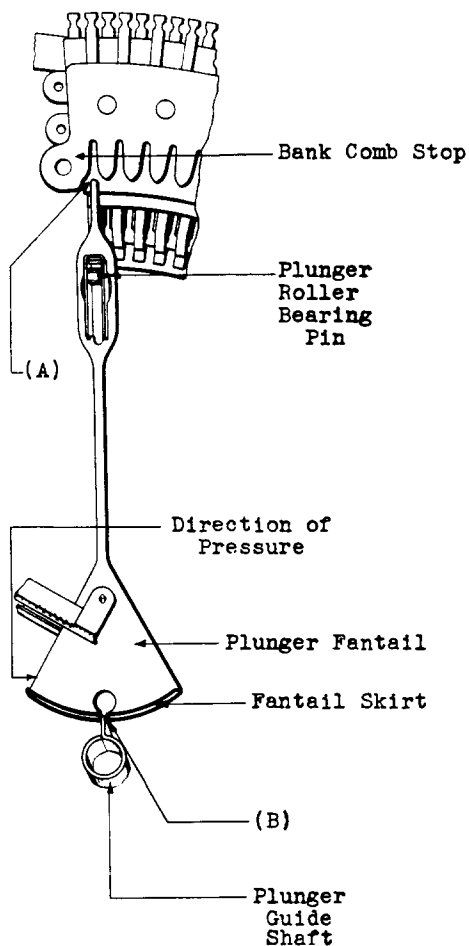

Fig. 5 — Clearance Between Plunger Tip and Bank Comb Stop
2.11 Clearance Between Plunger Tip and Bank Comb Stop: Fig. 5(A)—There shall be some clearance between the plunger tip and the bank comb stop (end of bank) when the plunger fantail slot is engaged with the plunger guide shaft op-
2.12 Re-engagement of Plunger With Plunger Guide Shaft: Fig. 5(B) and 6(A) — With the plunger guide shaft opposite the No. 1 trunk, the slot in the plunger fantail shall re-engage the plunger guide shaft from the No. 1 trunk when the tip of the plunger is held lightly against the bank comb stop (end of bank) by a small amount of pressure applied to the side of the fantail. This requirement shall also be met with the guide shaft opposite the No. 10 trunk and the slot in the plunger fantail shall also re-engage the plunger guide shaft from the No. 10 trunk. Gauge by eye and feel.